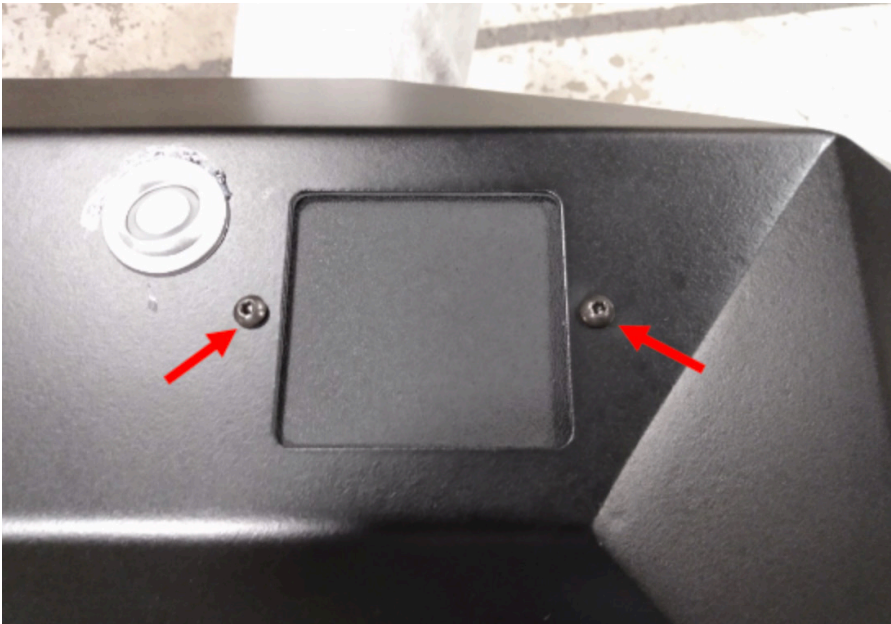

Figure 24
20. Using a 1/8" Allen wrench, install the plastic sheet with the provided #10 black stainless screws and barrel nuts. Figure 24